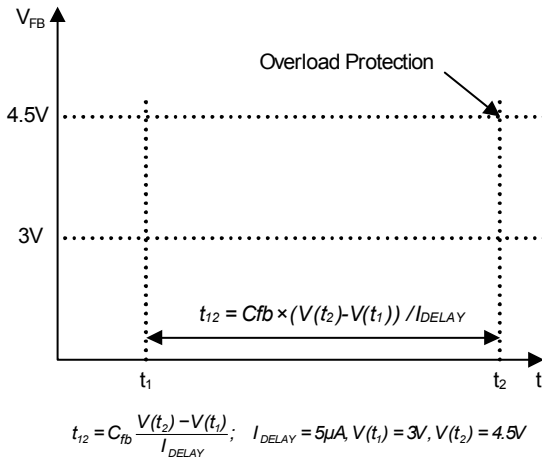

Figure 18. Overload Protection (OLP)
4.1 Overload Protection (OLP): Overload is defined as the load current exceeding a pre-set level due to an unexpected event. In this situation, the protection circuit should be activated to protect the SMPS. However, even when the SMPS is operating normally, the overload protection (OLP) circuit can be activated during the load transition. To avoid this undesired operation, the OLP circuit is designed to be activated after a specified time to determine whether it is a transient situation or a true overload situation. If the output consumes more than the maximum power determined by I_{LIM} , the output voltage (V_O) decreases below its rating voltage. This reduces the current through the opto-coupler LED, which also reduces the opto-coupler transistor current, thus increasing the feedback voltage (V_{FB}). If V_{FB} exceeds 3V, the feedback input diode is blocked and the 5µA current source (I_{DELAY}) starts to charge C_{FB} slowly up to V_{CC} . In this condition, V_{FB} increases until it reaches 4.5V, when the switching operation is terminated, as shown in Figure 18. The shutdown delay time is the time required to charge C_{FB} from 3V to 4.5V with a 5µA current source.